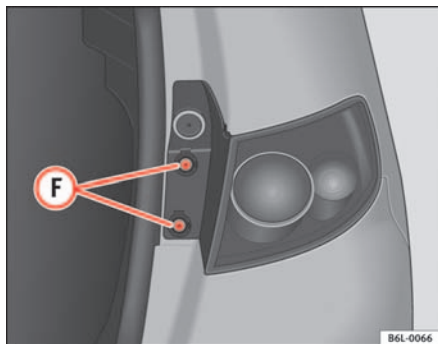

Fig. 165 Rear lights on bodywork
- Unscrew the screws **F** ⇒ fig. 165 using a flat-blade screwdriver.